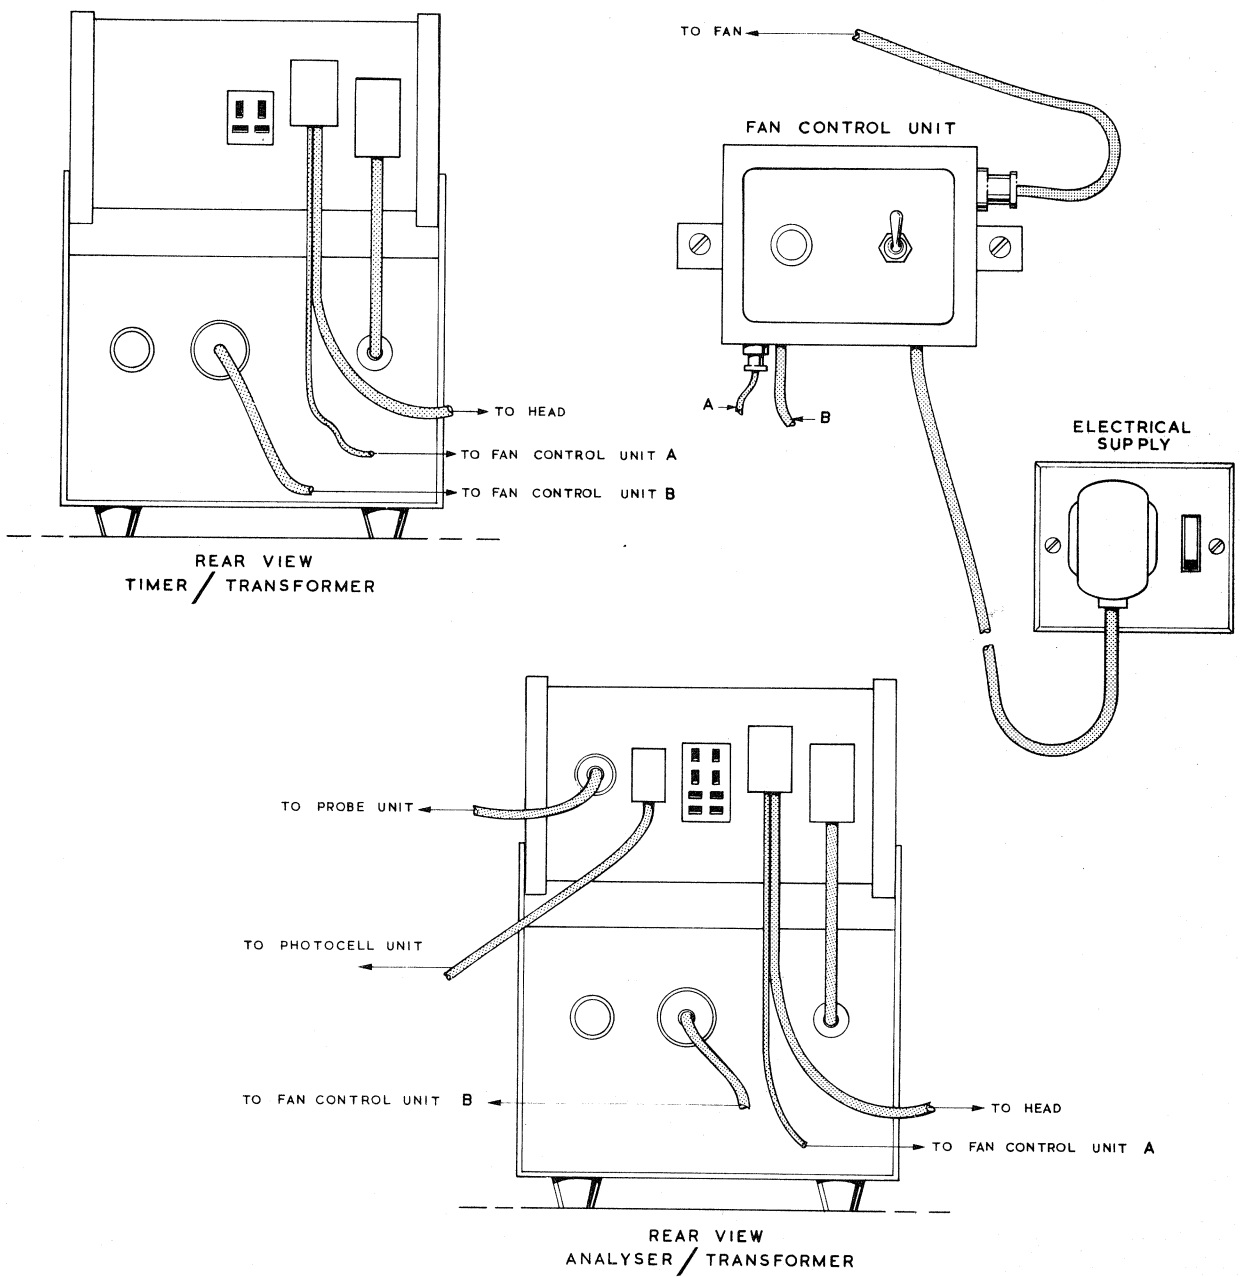

Figure 2
- 3.8.1** The Transformer and Timer are transported unattached, and therefore require assembly. The Timer unit should be mounted above the Transformer unit between the extended sides, by means of four M5 pan head screws. The cable from the Transformer unit is plugged into the right hand socket of the Timer unit (viewed from the rear)(Fig. 2).
- 3.9.1** The Transformer and Analyser are transported unattached and therefore require assembly. The Analyser unit should be mounted above the Transformer unit between the extended sides, by means of four M5 pan head screws. The cable from the Transformer unit is plugged into the right hand socket of the Analyser unit (viewed from the rear)(Fig.2).